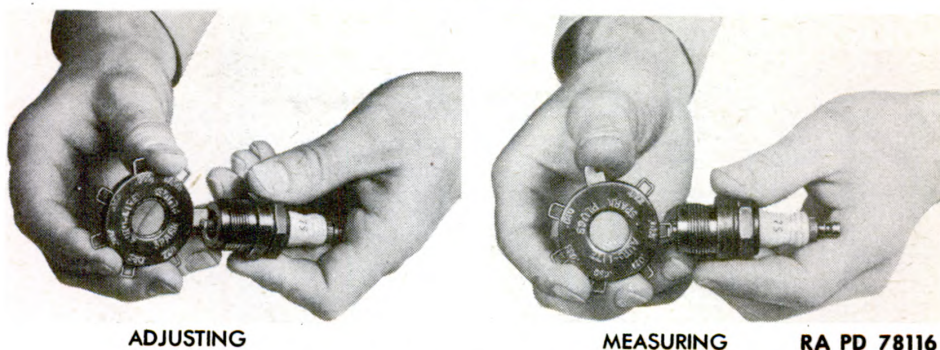

Figure 60 — Spark Plug Gap Adjustment
- (4) Place rotor in position over distributor shaft. Distributor shaft is cut so that it is possible to put rotor on shaft in one position only. Check position rotor is to be inserted to avoid breaking.
- (5) Place distributor cap on distributor, and secure in position with the two distributor cap hold-down clips.
a. Description. The spark plugs (fig. 60) are of the commercial automotive type with electrode gap adjustments made by bending the side electrode. Each plug consists of a metal shell within which is fixed an insulator with a central electrode stem. The metal shell is threaded to screw into the engine cylinder head. The central electrode stem is threaded at the upper part of the insulator to provide means of attaching the high-tension lead from the distributor. Champion No. 1 common, or equivalent spark plugs are used. These plugs are a cold-type, and under no circumstances should they be replaced with hot-type plugs.
(4) Check and adjust spark plug electrode gap using 0.025-inch feeler on gage (fig. 60). Bend outside electrode to obtain correct gap. Never bend center electrode.
(5) Test each spark plug on a spark plug tester to assure proper performance.
e. Removal. Unsnap high-tension lead from the spark plug terminal, and using a spark plug wrench (fig. 60), unscrew spark plug from cylinder head. Lift off spark plug gasket with spark plug.
f. Installation. Place copper gasket over threaded portion of the spark plug shell, and screw spark plug into cylinder using spark plug wrench (fig. 60). Avoid excessive pressure when tightening spark plugs. Attach proper high-tension lead to spark plug terminal.